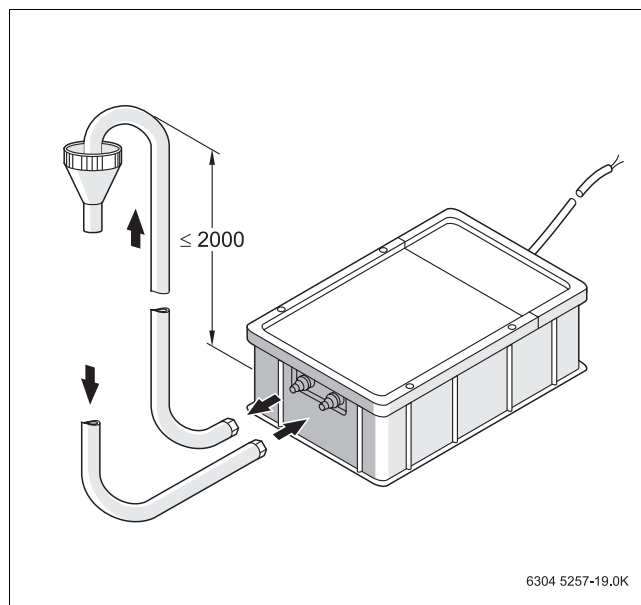

Fig. 20 Installing the neutralisation system
2.	Detach drain hose and pump hose from the granulate container (→ Fig. 20)